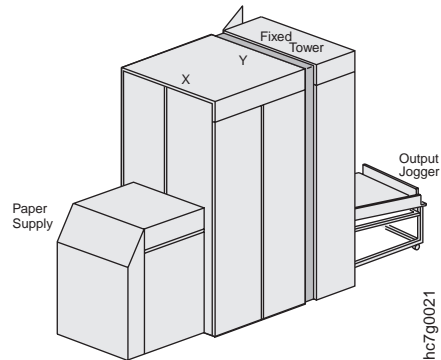

Figure 261. Right Side View of the InfoPrint Color 100
1. Close all doors except the fixed-tower door on the left side of the machine, as shown in Figure 261.